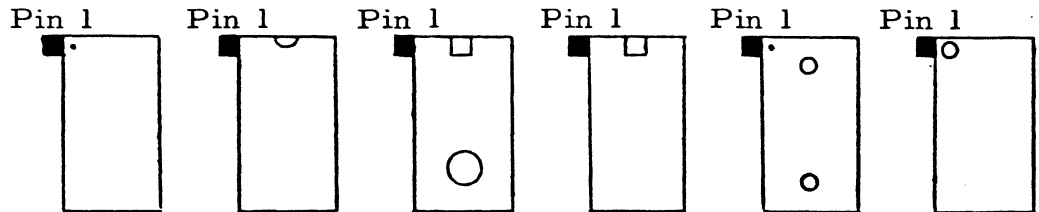

Figure 3 - IC Pin 1 Orientation
- Be careful to insert all IC's in correct positions and with the correct orientation (Figure 3).
- Be sure all IC's are in the correct position and with the correct orientation (Figure 3). Pin 1 is designated by a white dot adjacent to the upper left hand corner of each IC location.